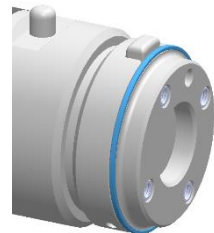

Figure 1.4
- 4) Visually confirm that the push button is correctly in place and check that there is no slack between the tool and the robot (*figure 1.4*)